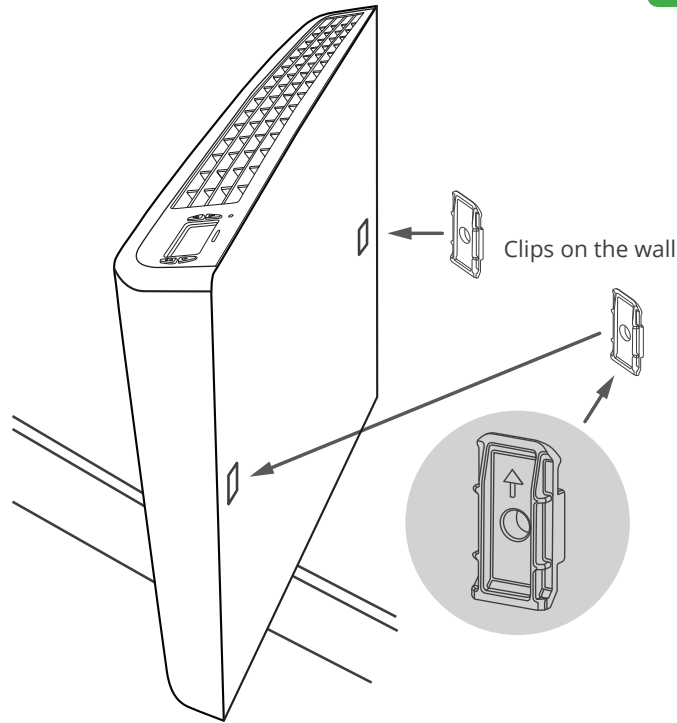
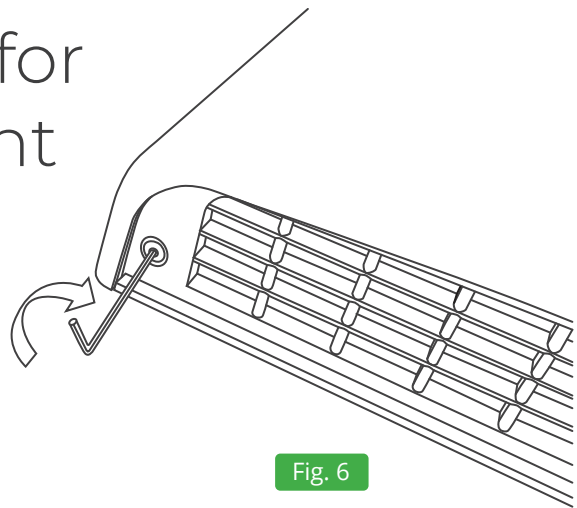

Fig. 5
Fig. 6
- 5** Note: make sure you pre-install the Locking bar screw before you mount the heater. (See Fig. 6 below). Install heater on mounting clips (align right side first) and make sure to press down firmly on the heater to ensure a secure fit. You will hear it “snap” into place. (Fig. 5 above)
- 1 Installing the Locking Bar Screw (Fig. 6) BEFORE YOU MOUNT THE HEATER TO THE WALL.** Take the locking bar screw out of the mounting kit and while the heater is laying flat, use the Hex/Allen key provided to pre-install the screw in the hole at the left hand side of the bottom vent (Fig. 6). Twist the locking screw in about 3/8 of an inch but make sure you do not screw it in too far as it will obstruct the mounting holes at the back of the heater and prevent secure mounting.
- 3 Tighten Locking Screw (Fig. 6)** Follow the rest of the mounting instructions to ensure the heater is properly seated on the mounting clips and then tighten the locking screw to fix the heater to the wall. **DO NOT USE A POWER TOOL! DO NOT OVERTIGHTEN**, just turn the screw until the locking bar presses gently up against the left hand mounting clip inside the heater.